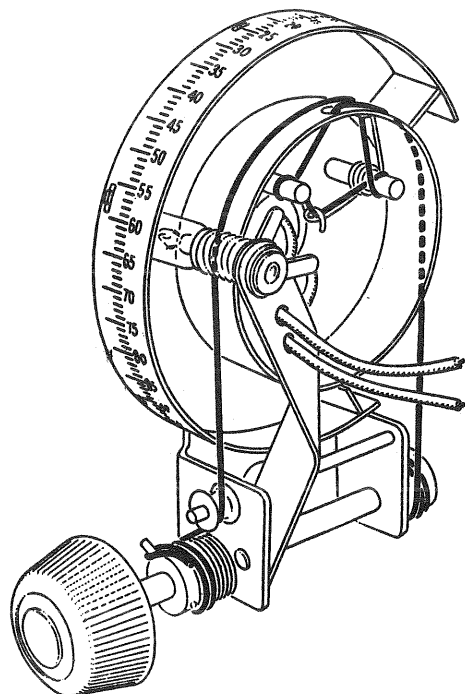

Figure 17—Gang tuning condenser drive mechanism and cable
- (c) By referring to Figure 17 the new cable may be placed in the position occupied by the old one.
(8) REPLACING TUNING DIAL